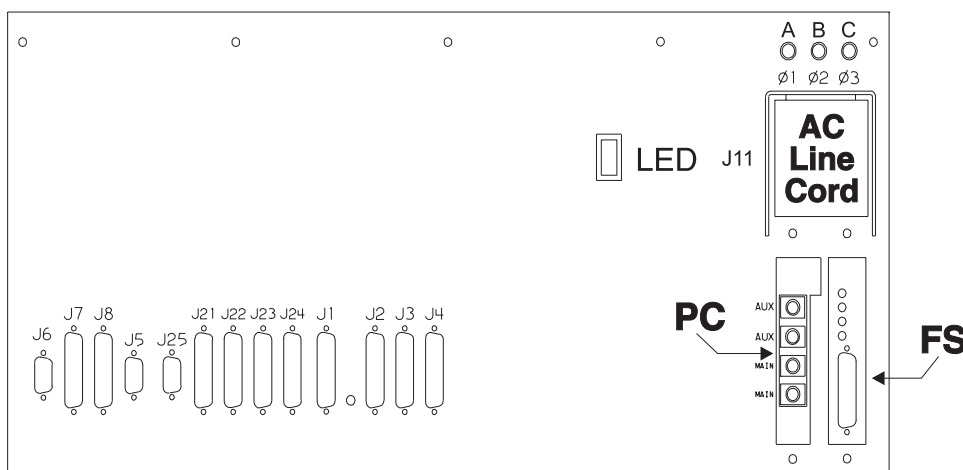

Figure 1-18. Rear view of the 5.0 kW Scalable Electrical Power Base Unit
2. 5.0 kW module (see Figure 1-18 on page 1-67)